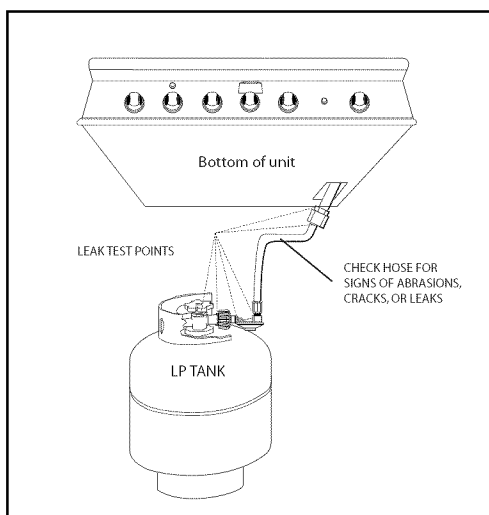

FIG. 16 LP Gas
Check all gas supply fittings for leaks before each use. Keep a spray bottle of soapy water near the gas supply shut-off valve. Spray all the fittings. Bubbles indicate leaks (Fig. 16 & 17).
- a) Unlock radiant end cap by pushing it up with two fingers (Fig. 16) or pliers may be used.